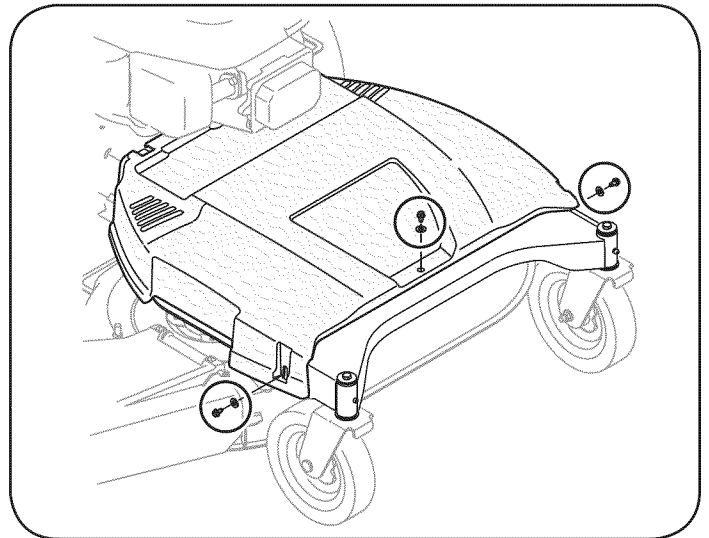

Figure 22
1. Remove the belt cover by removing the three screws and washers which secure it to the frame. See Figure 22.